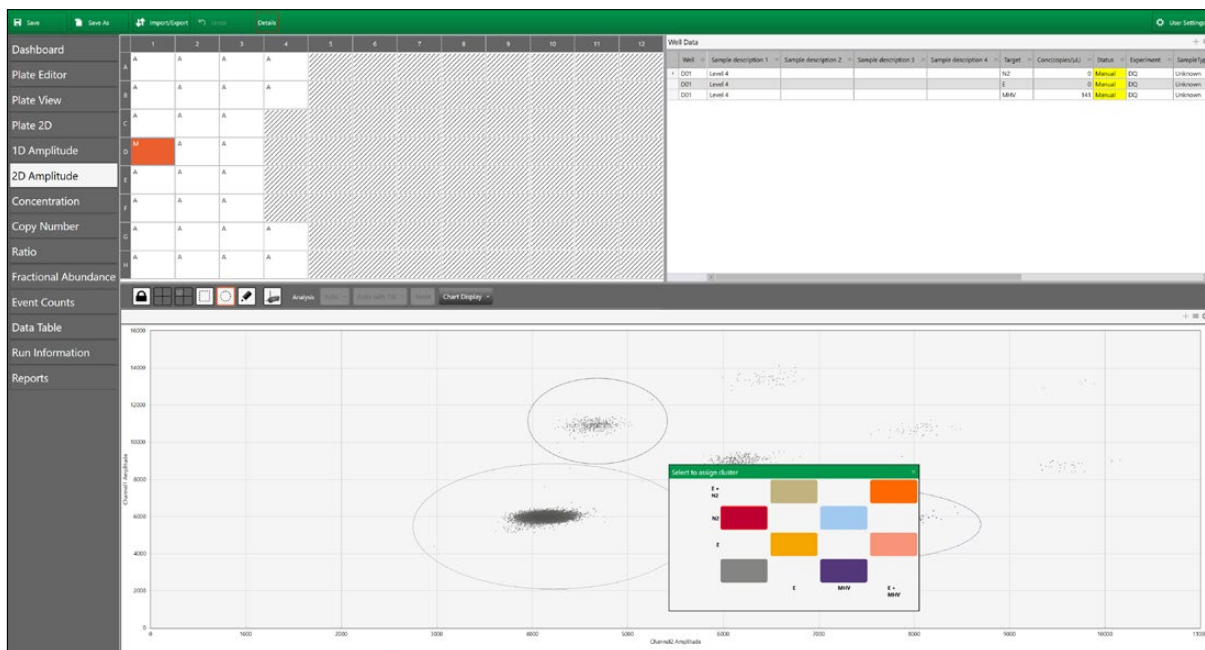

Fig. 14. N2 single-positive cluster.
7. The cluster immediately above the triple-negative corresponds to **N2** (single-positive, FAM channel) (Figure 14).